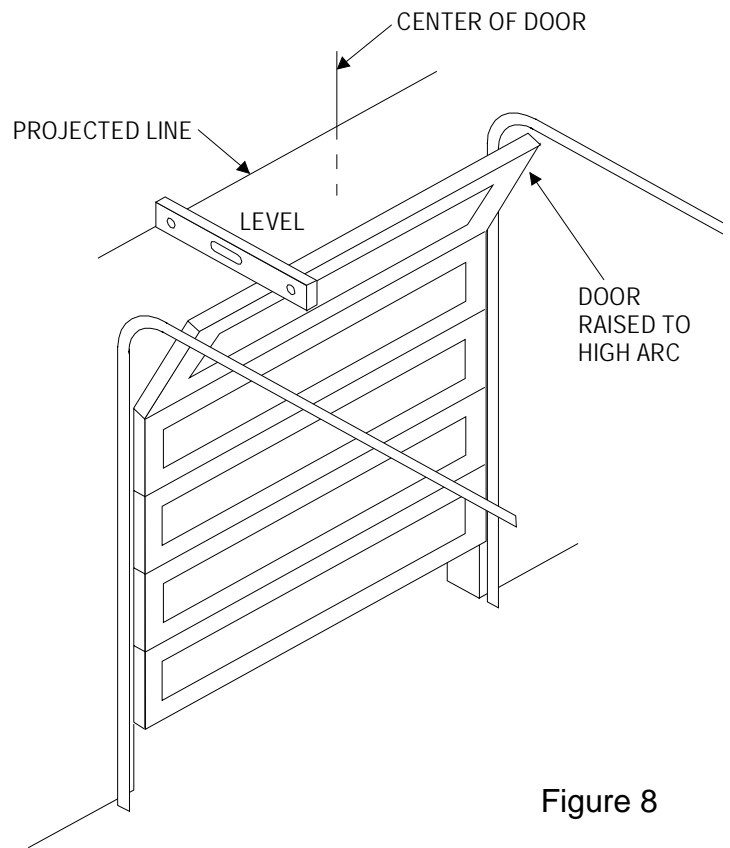

Figure 8
2. Slowly raise the garage door and observe the action of the top section. When the top section reaches the highest point (high arc), use a level and project a line from this point to the center of the door. See Figure 8.
3. Refer to Figure 8. Depress the limit nut retaining bracket away from the slots in the limit nuts. Turn the CLOSE limit nut on the shaft until it engages the CLOSE Limit Switch. The switch will sound an audible "click" when engaged. If there are auxiliary present, the limit switch will be the second "click". Release the retaining bracket and be sure that it engages in slots of both limit nuts.